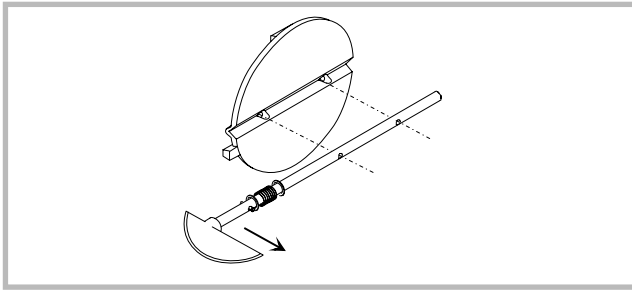

Figure 9 - Flue damper control
- Refit the flue damper control and the flue damper. The handle of the flue damper control must point upwards when the damper is closed (fig. 9, p. 8).